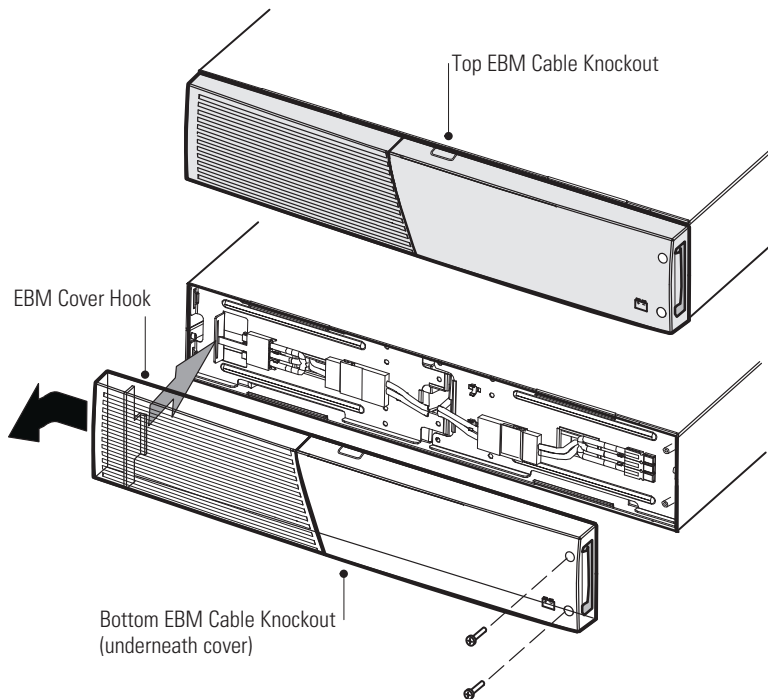

Figure 12. Removing the EBM Front Cover
2. Remove the front cover of each EBM (see Figure 12).
3. For the bottom (or only) EBM, remove the EBM cable knockout on the top of the EBM front cover. See Figure 12 for the location of the top EBM cable knockout.
- If you are installing more than one EBM, for each additional EBM remove the EBM cable knockout on the top **and** bottom of the EBM front cover. See Figure 12 for the location of the EBM cable knockouts.
To replace the cover, verify that the EBM cables are routed through the EBM cover knockouts, then slide the cover from the left to the right until it connects with the cover hook near the left side of the EBM cabinet. Reinstall the two screws on the right side of the front cover. For reference, see Figure 12 on page 20.